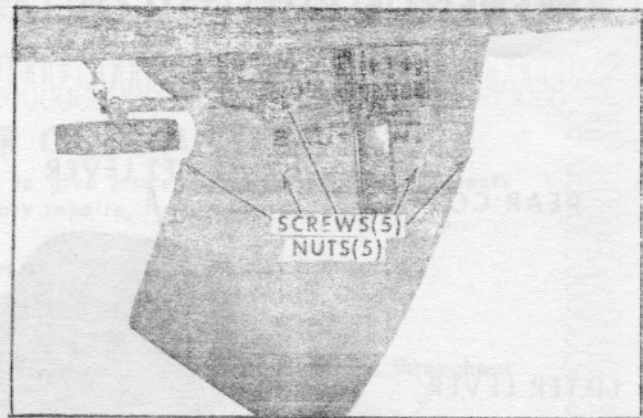

FIG. 2
1. Place discharge guard into the discharge opening of the mower housing and align the 5 holes in the chute with the 5 corresponding holes in the housing. (See Fig. 2)